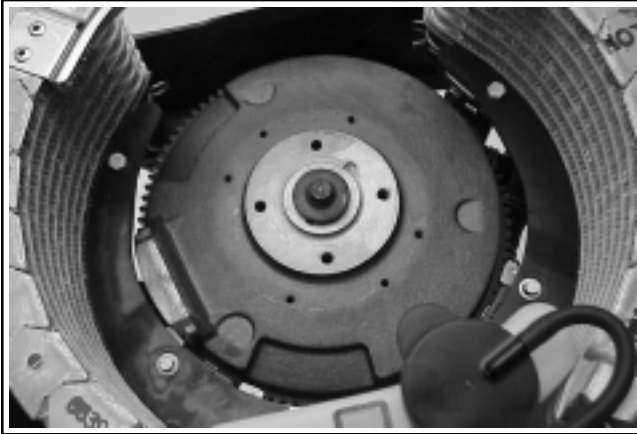

Figure 9-23. Location of Four Screws Securing Blocking Plates.
2. Remove the four screws securing the R.H. and L.H. blocking plates to the radiator supports and take out the plates. See Figure 9-23.